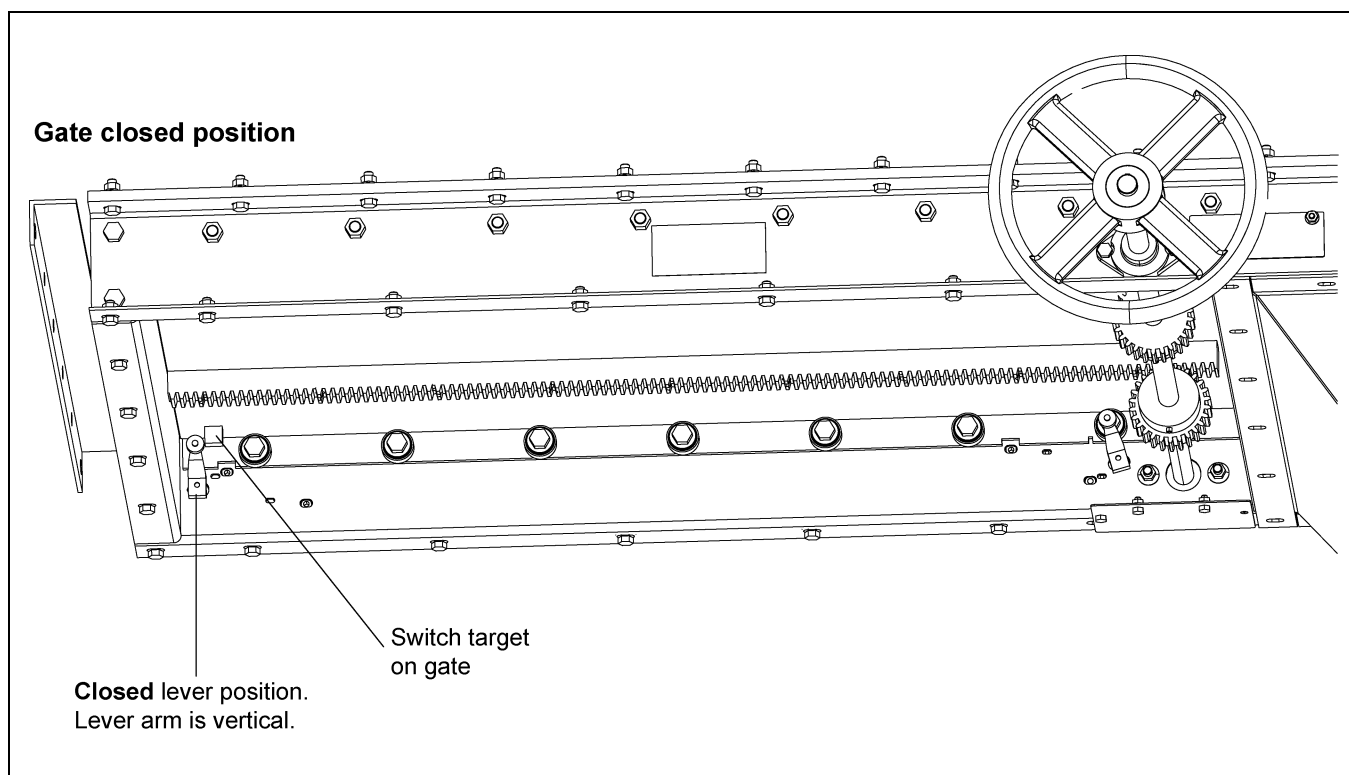
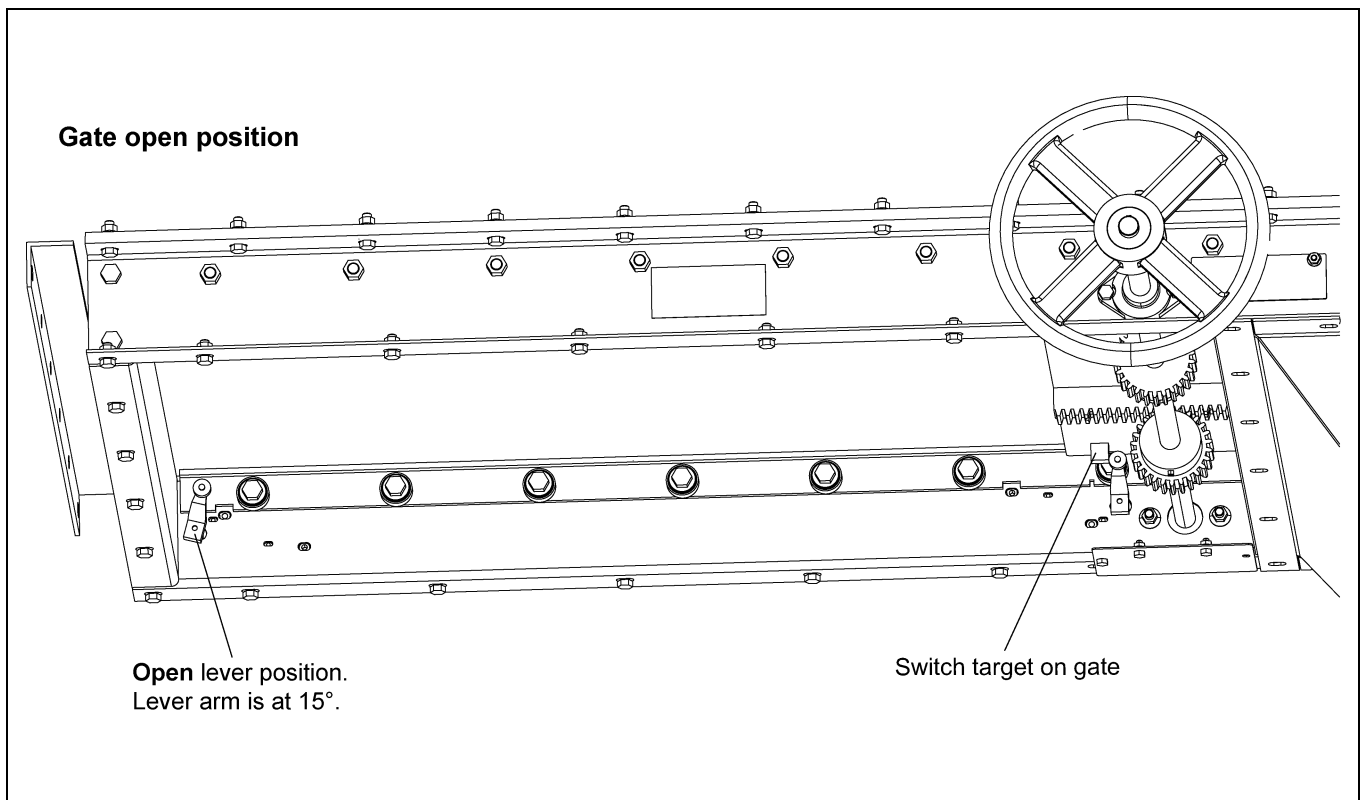

Figure 3J
Figure 3K
2. Switch levers should be installed at a 15° angle, when a lever is activated to a vertical position by a switch target, the motor will stop. *(See Figure 3J below and Figure 3K on Page 15.)*